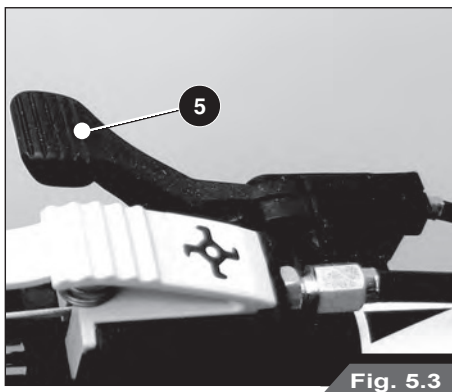

Fig. 5.3
- Put the gas control lever (5) onto half (Fig. 5.3).
- Set up the flail mower for ignition by using the Starter Lever (11) for petrol engines.